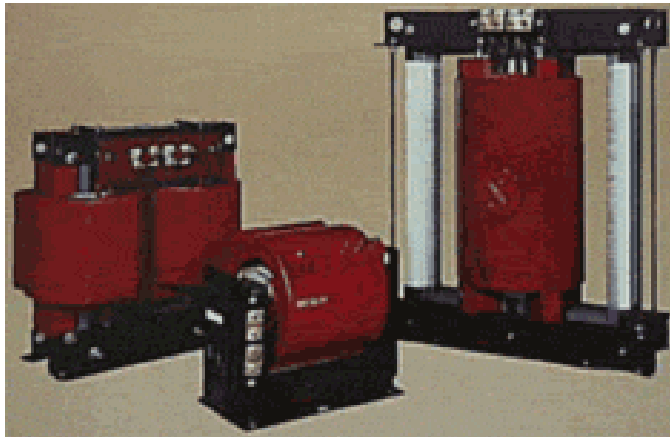
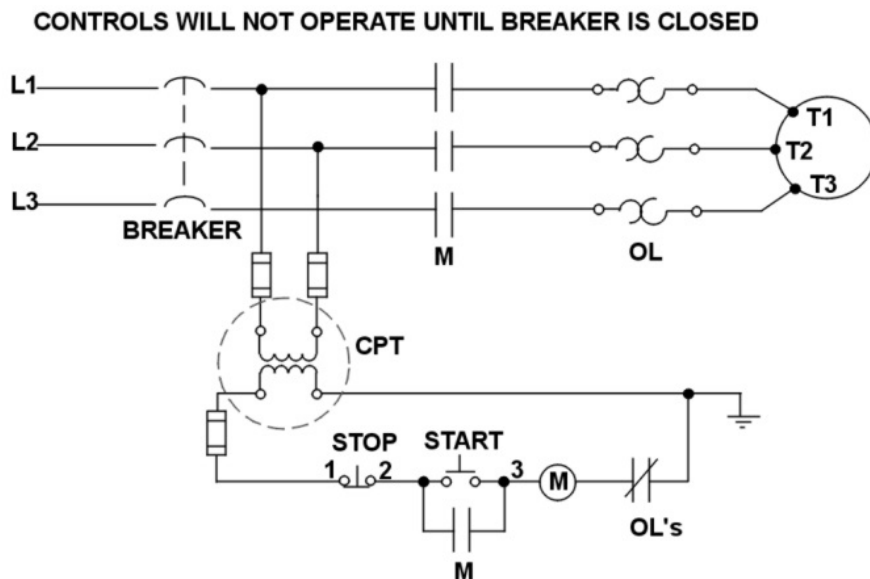

Figure 2
Figure 3
- All CPTs that supply trip power should be supplemented with an external device such as a capacitive trip unit to provide at least one trip signal after a power system loss of voltage. Some typical CPTs are shown in Figure 2. A typical application is shown in Figure 3.